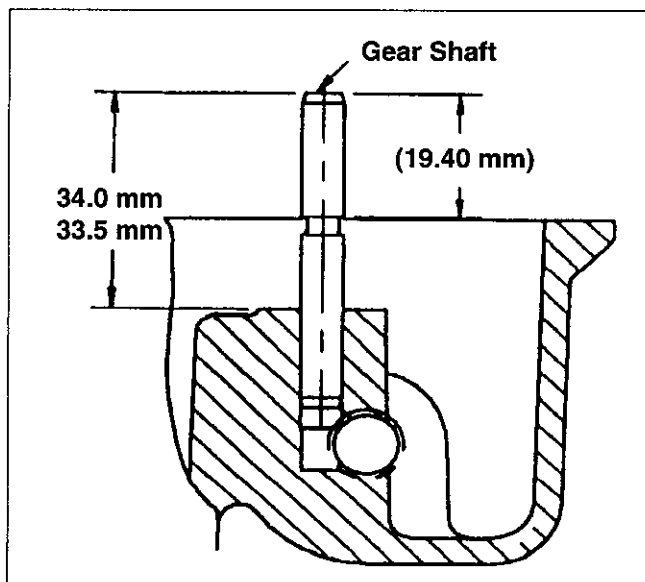

Figure 10-14. Governor Shaft Press Depth.
3. Carefully inspect the governor gear shaft and replace it only if it is damaged. After pulling damaged shaft, press or lightly tap replacement shaft into closure plate to depth shown in Figure 10-14.